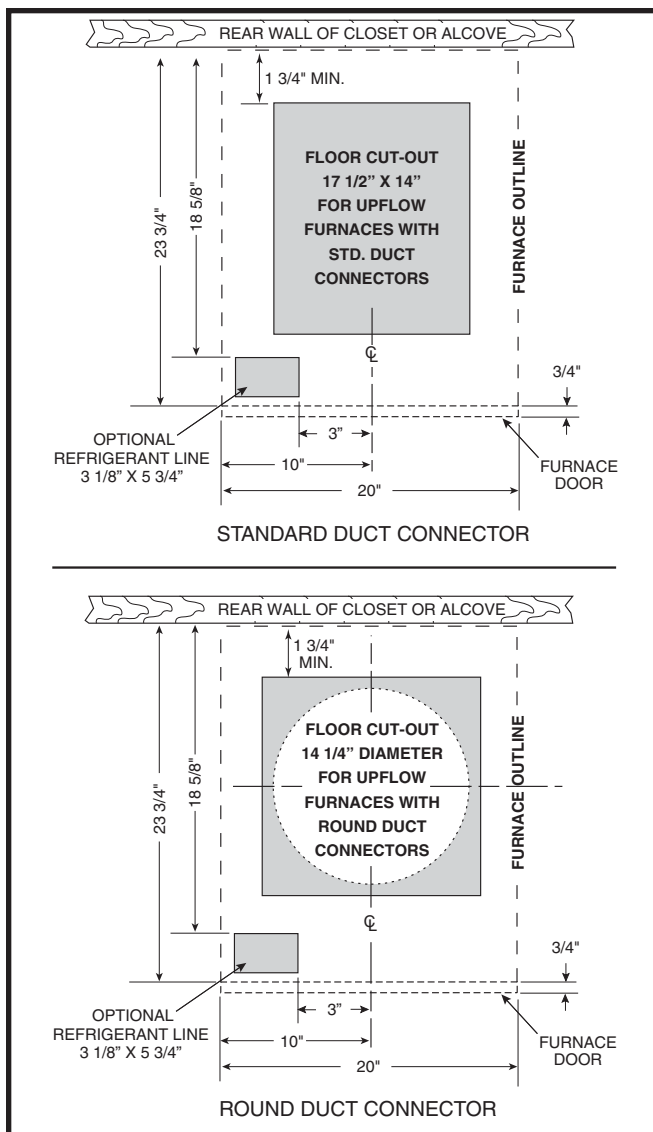
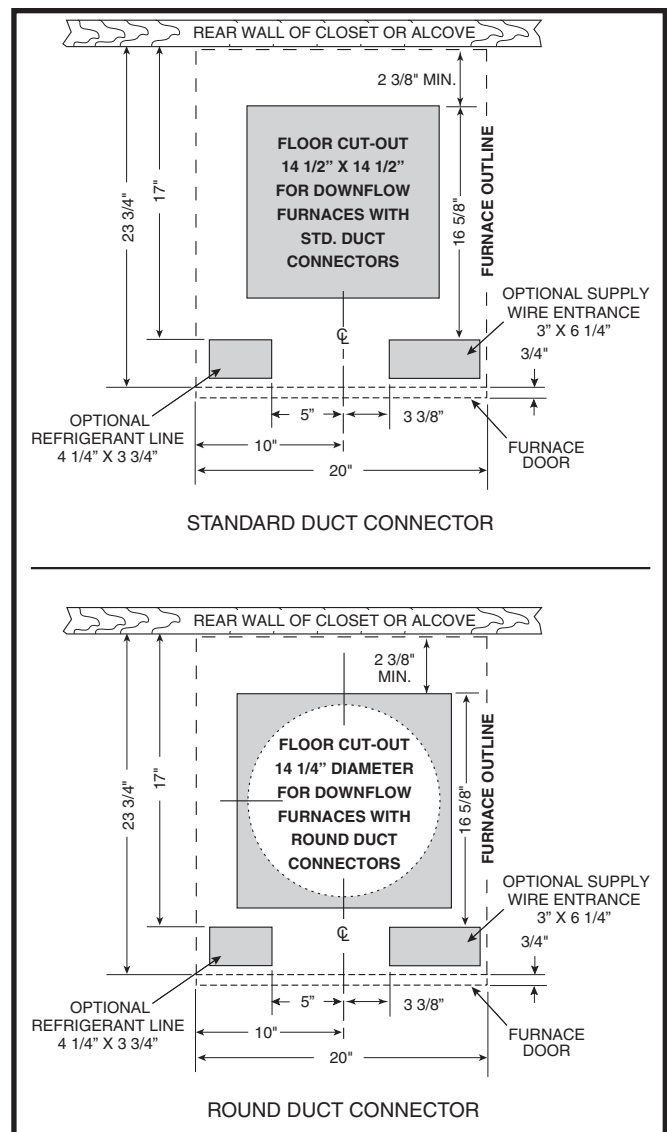

Figure 4. Cut-Out Dimensions for Upflow Furnaces
Figure 5. Cut-Out Dimensions for Downflow Furnaces
Floor cut-outs must be carefully located to avoid misalignment of the furnace and air duct. Standard and round cutouts for upflow furnaces are shown in Figure 4. The cutouts for downflow furnaces are shown in Figure 5.
2. Using the centerline as a starting point, draw the rest of the duct cut-out to the dimensions shown in Figure 4 or Figure 5.